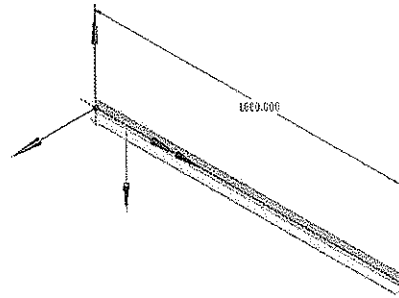
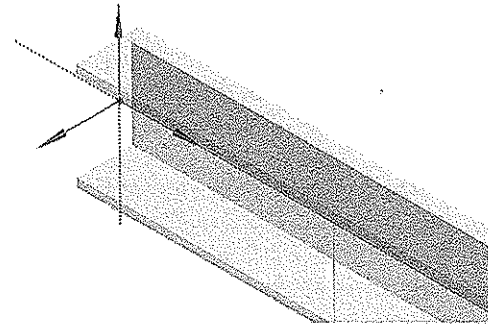

Figure 4-12 Final rotated model of the beam with C-section
Figure 4-13 Zoomed partial view of the beam with C-section
4. Click on the **Rotate** edit box in the **Details View** window and enter **90** in the edit box; the model is rotated by 90 degrees, as shown in Figure 4-12. Figure 4-13 shows the zoomed partial view of the model.